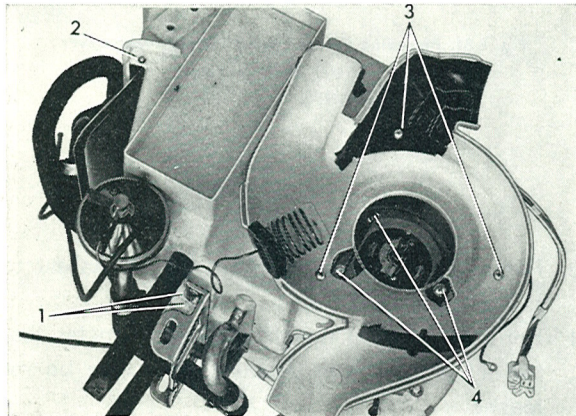

Fig. 8-86. Disassembling central unit
2. Unscrew the two left screws for the tunnel bracket (1, Fig. 8-86).